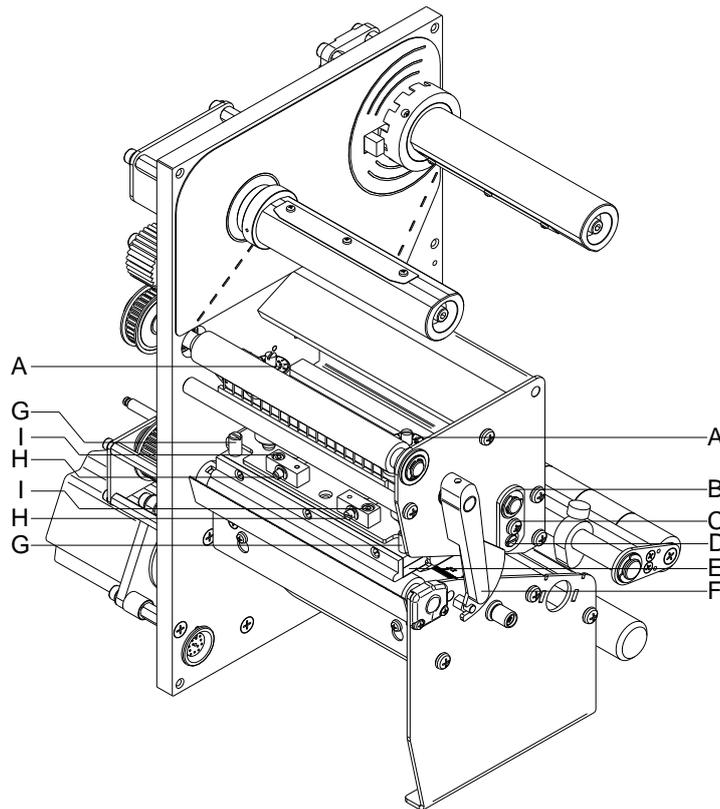

Figure 16
1. Loosen the screws (I, Figure 16) with a hexagon key by approx. $\frac{1}{4}$ rotations.
2. Adjust the parallelism with the adjusting screws (H, Figure 16).
4. Tighten again screws (I, Figure 16).
1. Loosen screw (C, Figure 16) with a screwdriver by approx. $\frac{1}{4}$ rotations.
2. In order to achieve a pressure balance, turn the excentric bolt (D, Figure 16) as long as the printing result comes up to your full expectation.
3. Tighten again screw (C, Figure 16).
1. Turn pressure screws (A, Figure 16) to change the pressure of printhead.
2. Turning the pressure screws (A, Figure 16) as far as they will go in clockwise direction results in a pressure increase of 10N in contrast to the factory setting.
3. Turning the pressure screws (A, Figure 16) from the limit stop counter clockwise to the corresponding scale value (see table) result in the factory settings.